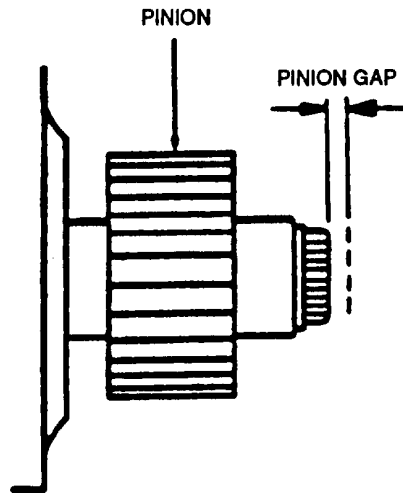

FIGURE 3-26. Checking Pinion Gap
**Be sure that rectangular hole in solenoid (1) plunger shaft engages lever (21) in housing.**
**Apply sealing compound (MIL-R-46082) to screws (2) before assembly.**
- n. Install solenoid (1) and secure with screws (2).
- (1) Connect a 24 VDC power source positive lead to terminal 'S' on solenoid and negative lead to starter frame.
- (2) Apply power to solenoid and pinion gear will shift.
- (3) Disconnect terminal 'M' wire to stop pinion from rotating.
- (4) Gently push pinion shaft towards solenoid and measure amount of travel, refer to FIGURE 3-26. Pinion gap should be 0.0118 to 0.787 in. (0.3 to 2.0 mm).
- (5) Adjust gap by increasing or decreasing number of fiber washers between solenoid and front bracket. Increasing number of washers decreases gap and decreasing number of washers increase gap.